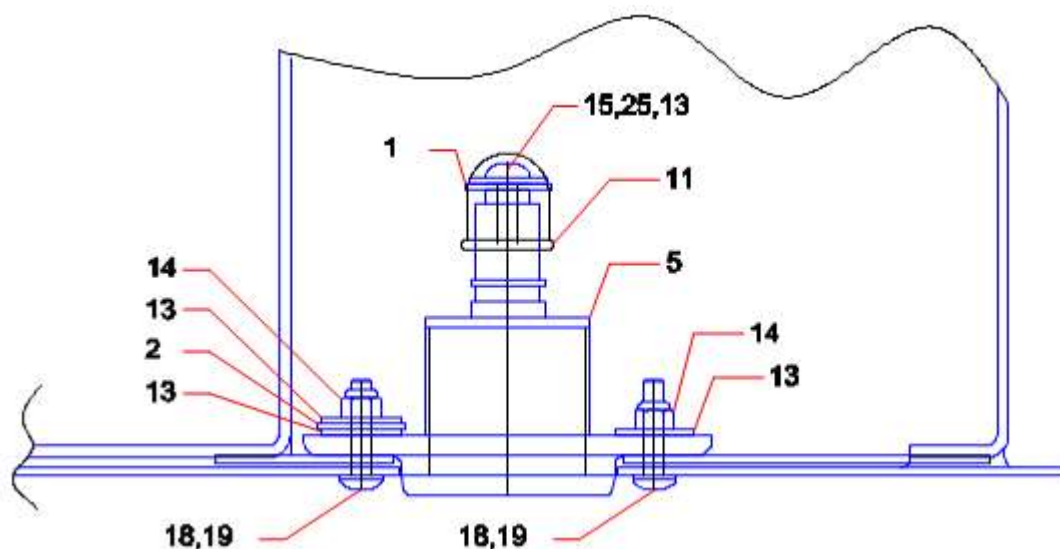

Figure 3. EPU receptacle.
11. Install the EPU receptacle from the inside of the fuselage with a bead of Marine 4000 all around the flange. See Figure 3. Tighten the aft screw only. Clean the excess sealant.